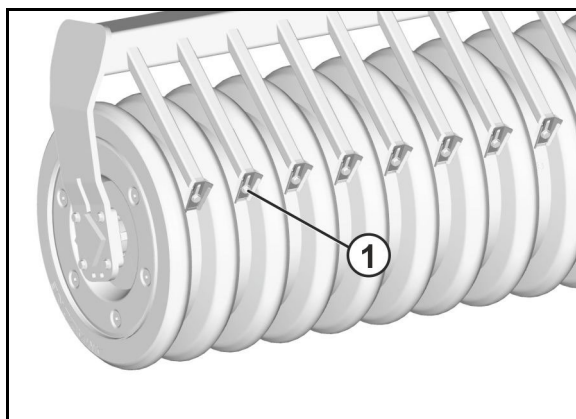

Fig. 34
- The working depth is set hydraulically using the scale (Fig. 34/1).